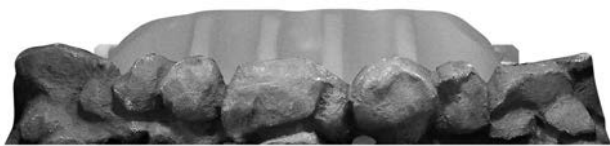

Fig. 11
3. Position the front coal piece on the front coal retainer, making sure that the back edge is pushed up against the front of the burner strip (Fig. 11).